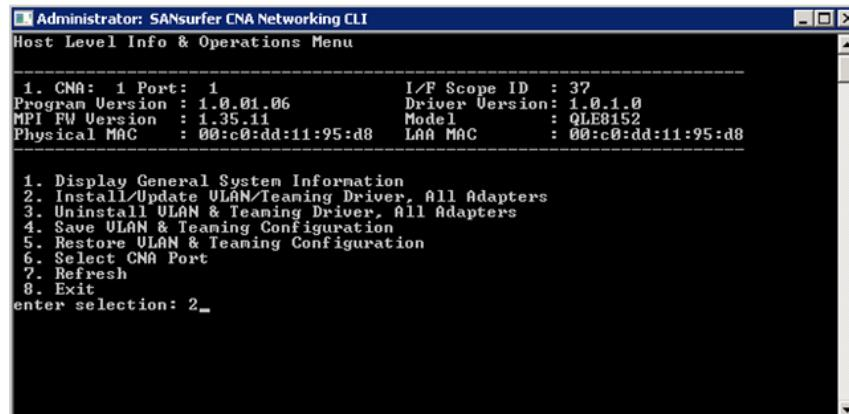

Figure 6-16. Host Level Info & Operations Menu
4. In the Host Level Info & Operations menu, type 2 and press ENTER to select **Install/Update VLAN/Teaming Driver, All Adapters** (Figure 6-16).